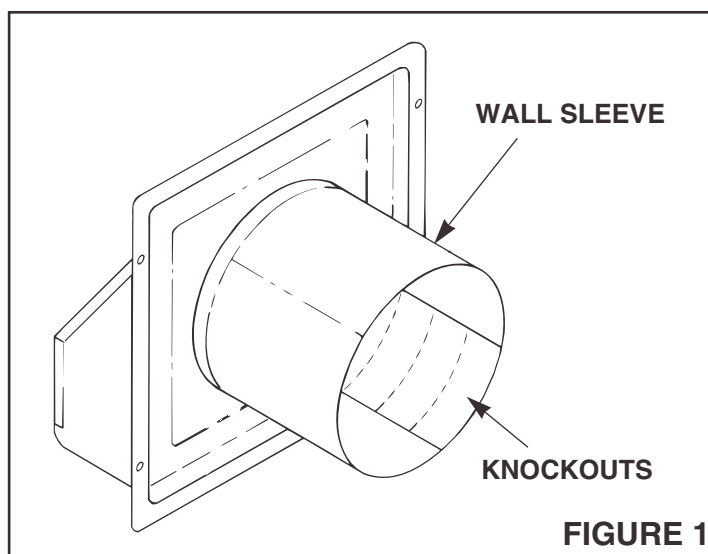

FIGURE 1
- Refer to Figure 1.** Remove the necessary knockouts from the wall sleeve to allow clearance for the outlet box.